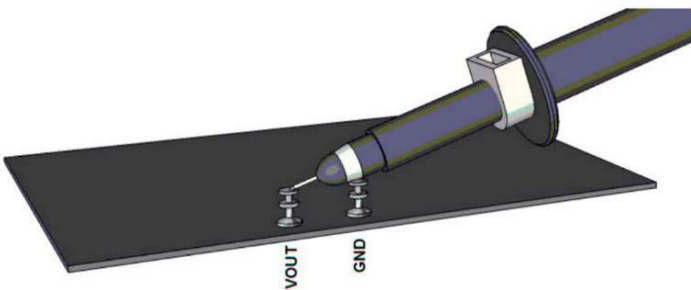
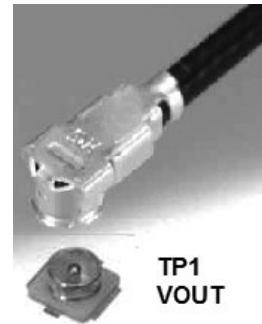

Figure 3. Technique for Measuring Output Ripple and Step Response
Figure 4. Technique for Measuring Output Ripple and Step Response with a Low Inductance Connector (Not Supplied)
NOTE: For accurate  $V_{IN}$ ,  $V_{OUT}$  and efficiency measurements, measure  $V_{IN}$  at the VIN SNSE and GND SNSN turrets, and measure  $V_{OUT}$  at the VOUT SNSE and GND SNSE turrets. When measuring the input or output ripple, care must be taken to avoid a long ground lead on the oscilloscope probe. It is recommended to use technique shown in Figure 3 and Figure 4 for basic ripple measurement.
3. Connect an oscilloscope voltage probe as shown in Figure 3, between VOUT1 SNSE and GND1 SNSE turrets. Set channel to AC-coupled, voltage scale to 20mV, and time base to 10 $\mu$ s/div. Check VOUT1 ripple voltage. Output voltage ripple can also be measured with a low inductor connector on TP1, as shown in Figure 4.